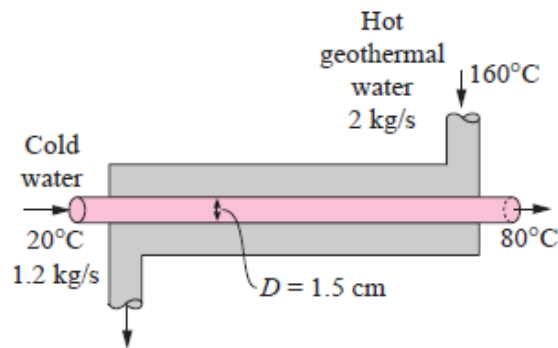

Figure 2
8. A counter-flow double-pipe heat exchanger is to heat water from 20°C to 80°C at a rate of 1.2 kg/s (figure 2). The heating is to be accomplished by geothermal water available at 160°C at a mass flow rate of 2 kg/s. The inner tube is thin-walled and has a diameter of 1.5 cm. the overall heat transfer coefficient of heat exchanger is 640 W/m².K. Using the effectiveness method determine the length of heat exchanger required to achieve the desire heating.